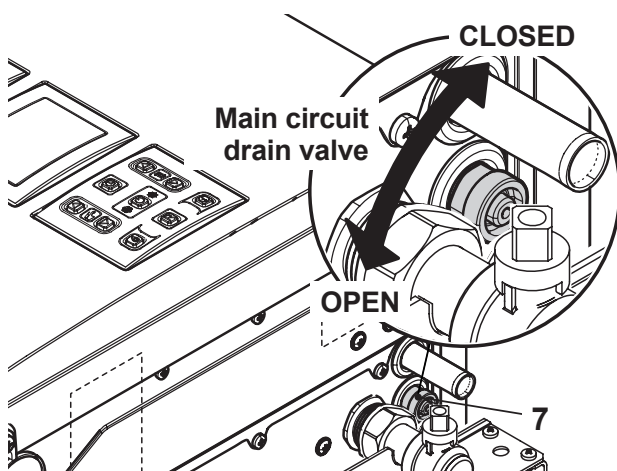

Fig. 9.10
- Loosen the central heating drain cock 7 indicated in Fig. 9.10.